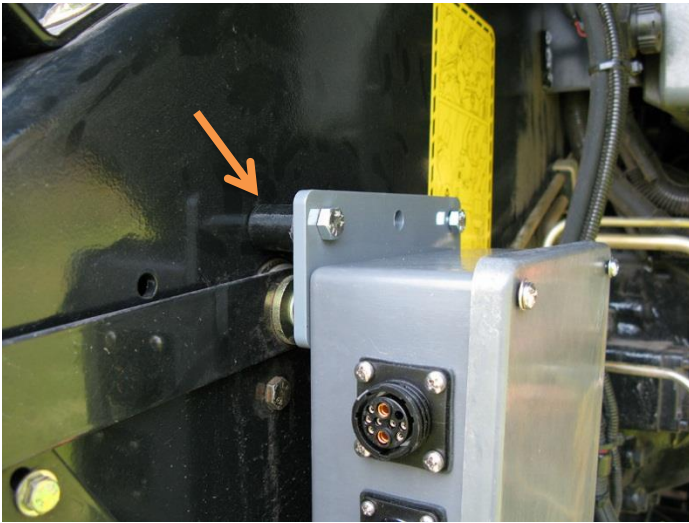

Figure 7
5. Use four 5/16" x 3" hex bolts with four lock washers, four flat washers (on between the hex bolt and PIP), four fender washers (between the PIP and standoffs) and hex nuts to mount the PIP to the baler. A 1-1/8" standoff will go between the PIP and baler to allow the movement of the hood latch. Figure 7